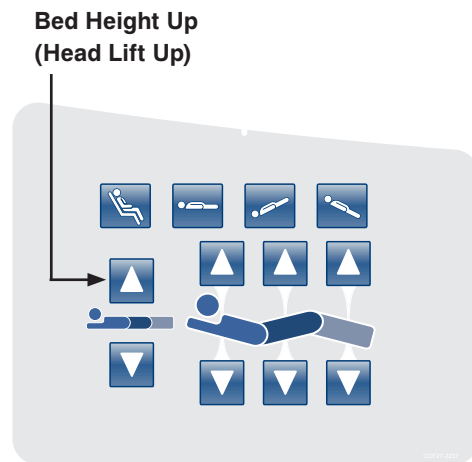

Figure 17: Head Siderail Control Panel - (Right Side Shown)
19. Place the bed at -12 degrees Reverse Trendelenburg by pressing the **Bed Height Up (Head Lift Up)** button as shown in Figure 17 below. Verify -12 degrees  $\pm$  0.1 with the inclinometer you previously placed on the bottom of the litter frame in step 11.